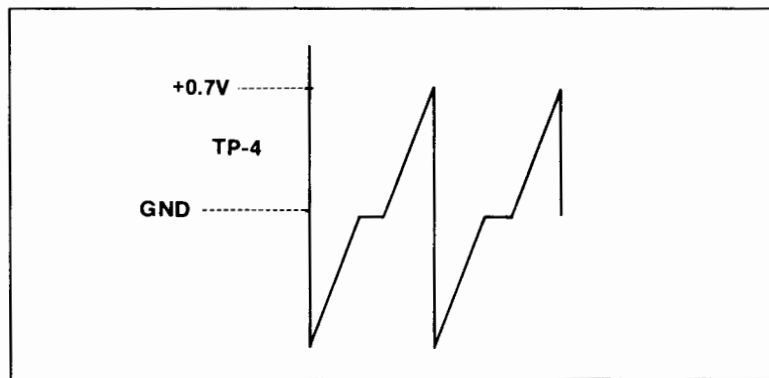

Figure 6-7. Frequency (TP-4)
- d. Connect scope probe to test point TP-4. Adjust frequency trim pot (R23) for a 0.7 volt peak output (See Figure 6-7).